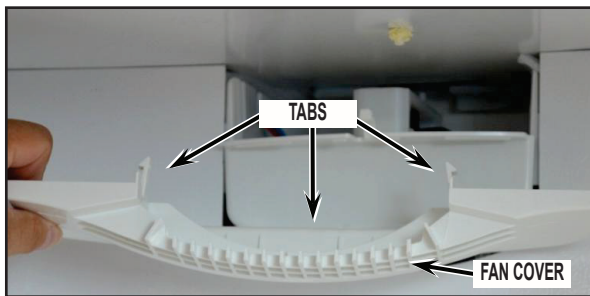

FIGURE 7
2. Release 2 tabs and then the center tab on the fan cover. See *Figure 7*.